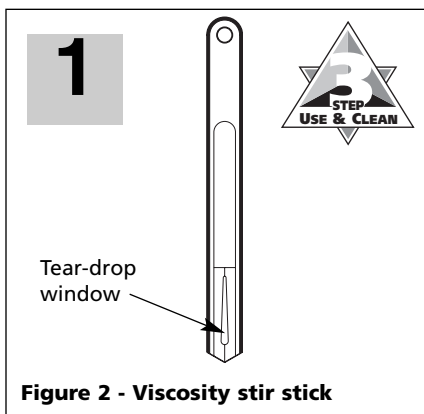

Figure 2 - Viscosity stir stick
1. Use viscosity stick to test viscosity of paint in original container (see Figure 2).